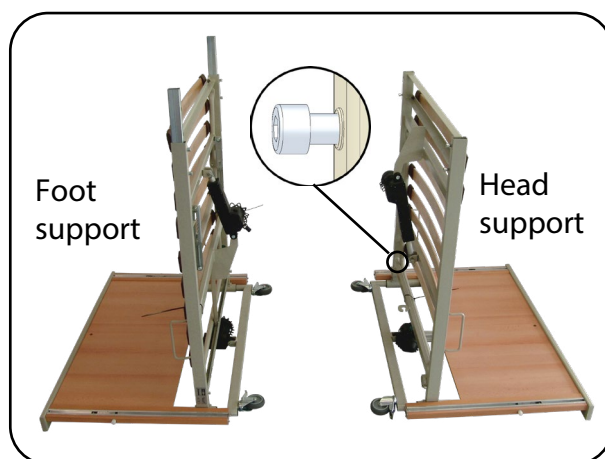

Fig. 6.1.02 – Stand parts with bed surface halves
2. Slide both halves of the bed surface onto the tube elements of the stand parts. Ensure the correct position of the bed surface halves in doing so. Now screw the two connection points (Fig. 6.1.02) tight with two Allen bolts each using the Allen key (6 mm).